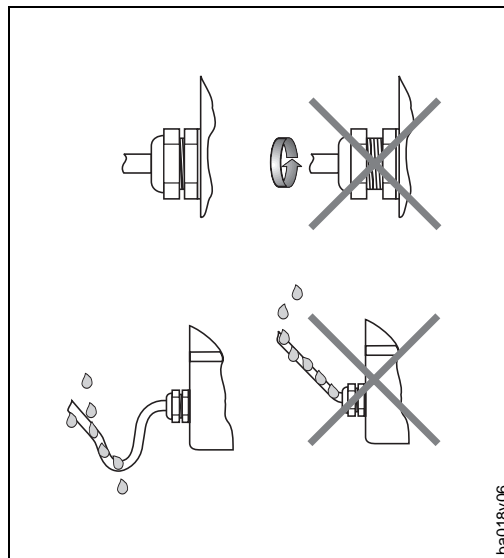

Fig. 5:
- The cable gland must be firmly tightened (see Fig. 5).
- The cable must loop down before entering the cable gland to ensure that no moisture can enter it (see Fig. 5).